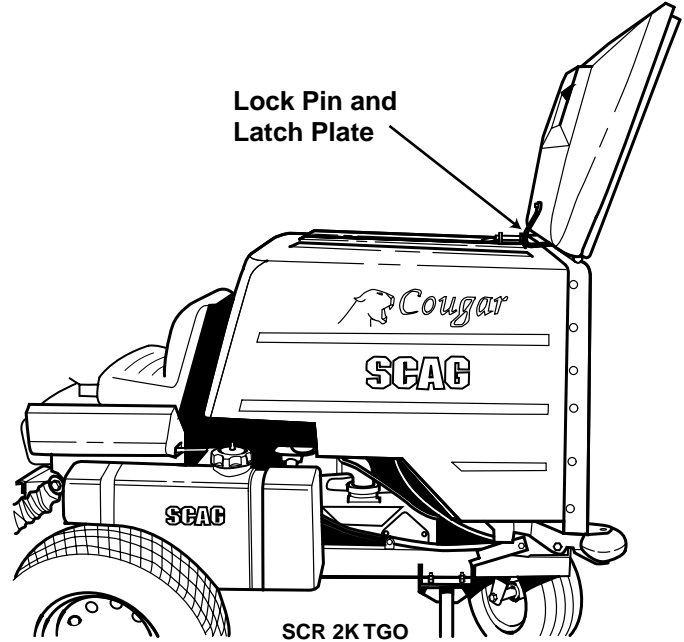

Figure 4-10 Tailgate Operation
- B. Raise the tailgate until the lock pin on top of the hopper engages with the latch on the tailgate (Figure 4-10).